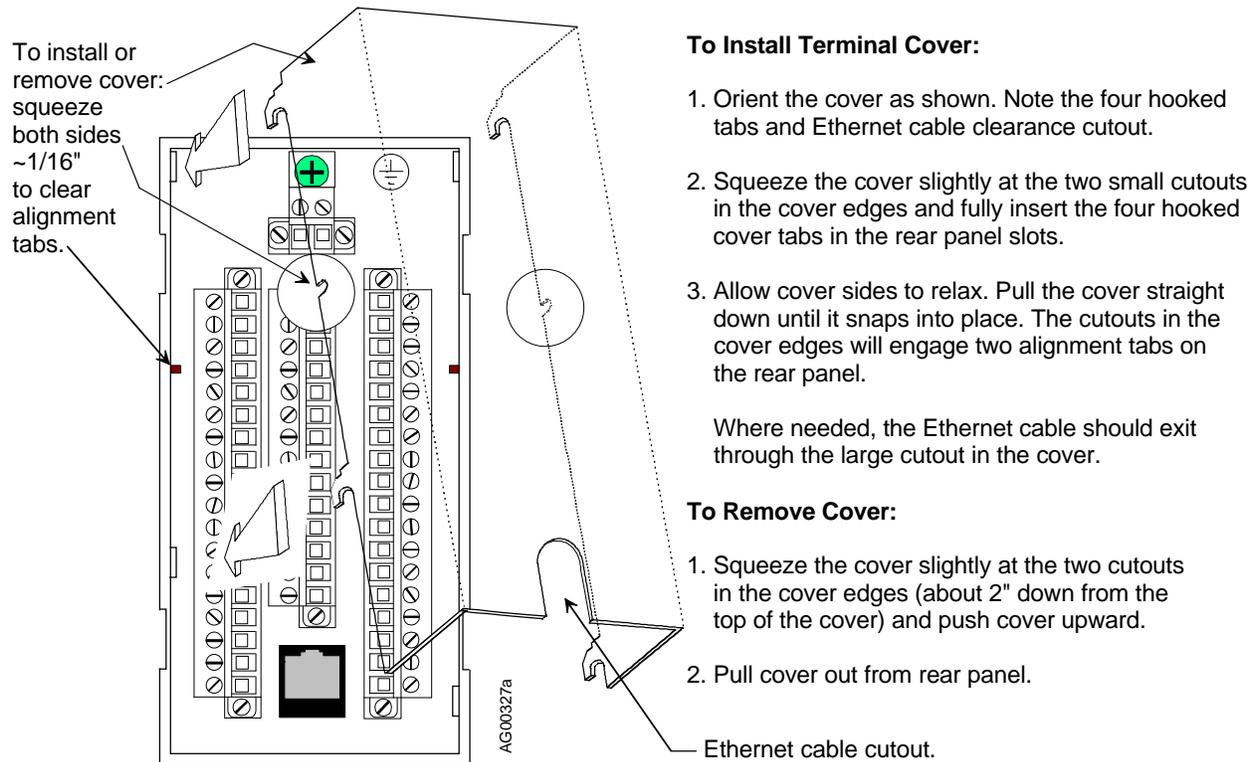

FIGURE 8-1 Direct Entry Connectors, Cover Installation and Removal
1. Squeeze the cover slightly about 2" (5 mm) down from the top and push the cover upward. See the Figure 8-1. As shipped from the factory, the cover is not installed on the case.